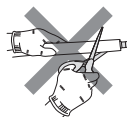

Fig. 1
- Do not cut the drain hose of the unit. (Fig. 1)
- 1) Cut the copper pipe as straight as possible with a pipe cutter. (Fig. 1, 2)